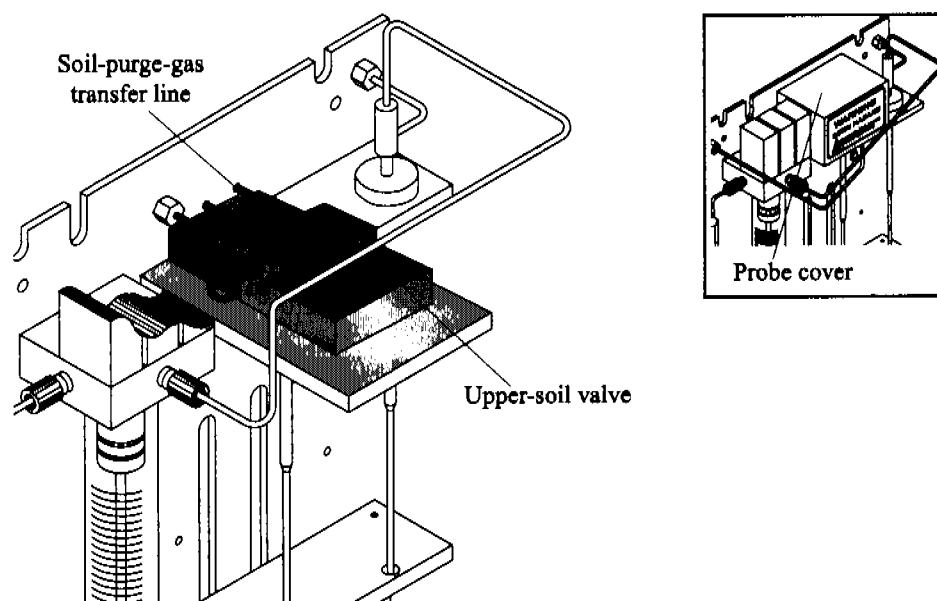

Figure 3.5. Model 4552 upper-soil valve with the probe cover removed
4. Loosen the Allen screw that secures the upper-soil valve and probe cover from inside the Model 4552. Remove the cover (Figure 3.5).
6. Insert the transfer line into the upper-soil valve's back port. Secure it using a $\frac{1}{4}$ " wrench to tighten the nut (Figure 3.5).
3. Loosen the Allen screw that secures the upper-soil valve and probe cover from inside the Model 4552. Remove the cover (Figure 3.5).